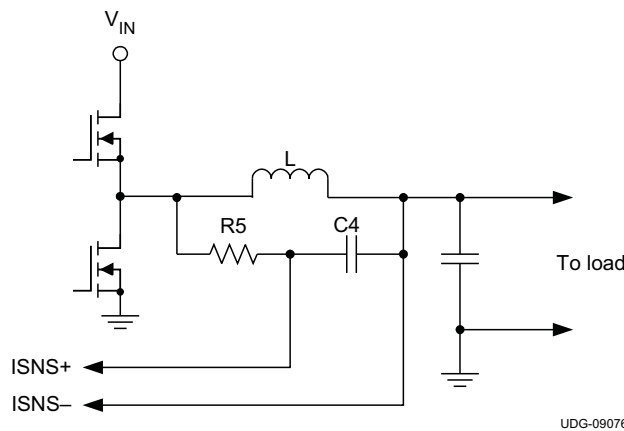

Figure 18. Current Sensing Using Inductor Resistance
**Output current limit and warning.** The TPS40400 uses a differential current sense scheme to sense the output current. The sense element can be either the series resistance of the power stage filter inductor or a separate current sense resistor. When using the inductor series resistance as in Figure 18, a filter must be used to remove the large AC component of voltage across the inductor and leave only the component of the voltage that appears across the resistance of the inductor. The values of R5 and C4 for the ideal case can be found by Equation 2. The time constant of the R-C filter should be equal to or greater than the time constant of the inductor itself. If the time constants are equal, the voltage appearing across C4 is the current in the inductor multiplied the inductor resistance. The inductor ripple current is reflected in the voltage across C4 perfectly in this case and there is no reason to have a shorter R-C time constant. The time constant of the R-C filter can be made longer than the inductor time constant because this is a voltage mode controller and the current sensing is done for overcurrent detection and output current reporting only. Extending the R-C filter time constant beyond the inductor time constant lowers the AC ripple component of voltage present at the ISNS pins of the TPS40400 but leaves the correct DC current information intact. This also delays slightly the response to an overcurrent event, but reduces noise in the system leading to cleaner overcurrent performance and current reporting data over the PMBus
where (from Figure 18)